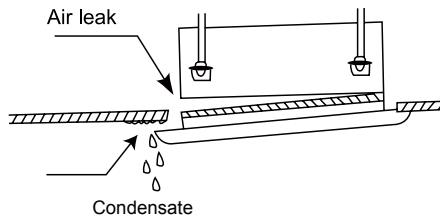

Fig.32
(2). Improper screwing of the screws may cause the troubles shown in Fig.32.